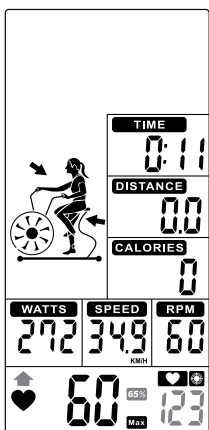

Figure 47
- ④ When Heart Rate goes below to 65%, & **65%** & value will flash. And buzzer sounds in every 10s until user HR achieve above 65% (Figure 47).